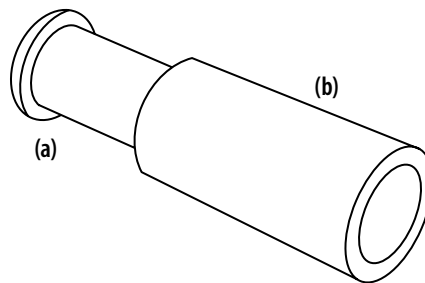

Figure 5-29
4. Remove the inner filter (a) from the paper element (b). See Figure 5-29.